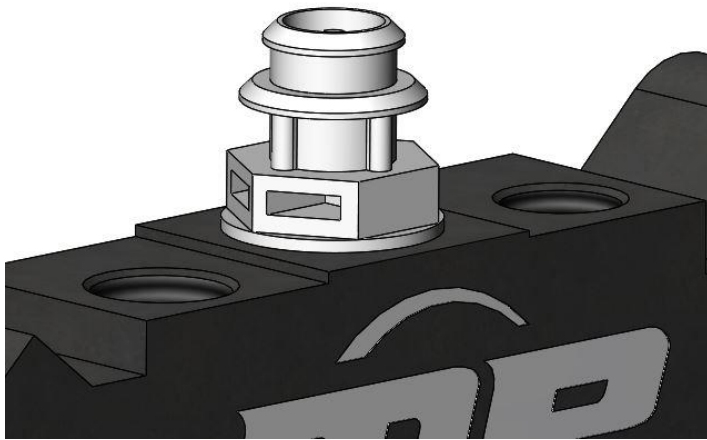

Figure 1a – Switch Installed in the Combination Valve
1. Remove the installed Pressure Differential Switch. Figure 1a shows the switch before removal.